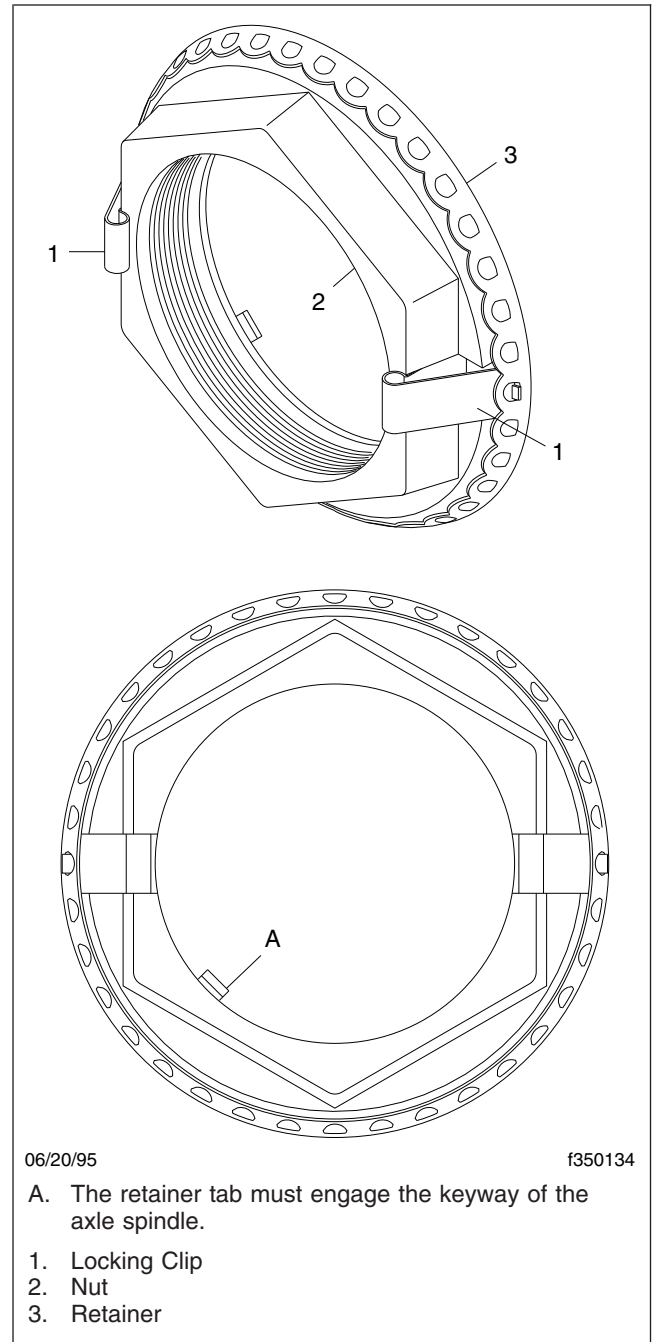

Fig. 1, Rear Axle Axilok Nut
2. By hand, install the Axilok nut onto the axle spindle. See Fig. 1.
- 2.1 By hand, install the Axilok nut onto the axle spindle. Then turn it against the bearing while spinning the hub. See Fig. 1.